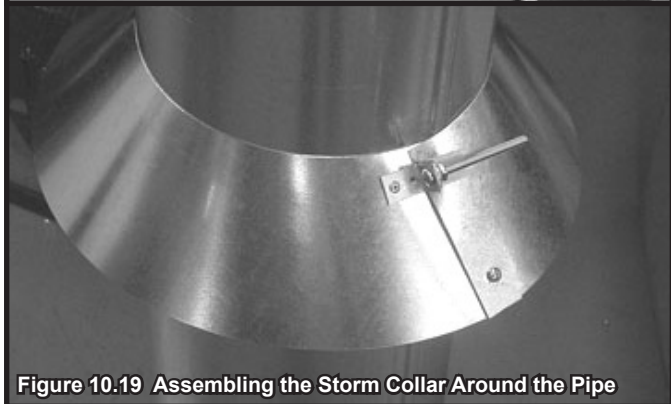

Figure 10.19 Assembling the Storm Collar Around the Pipe
- Slide the assembled storm collar down the pipe section until it rests on the roof flashing (see Figure 10.19).